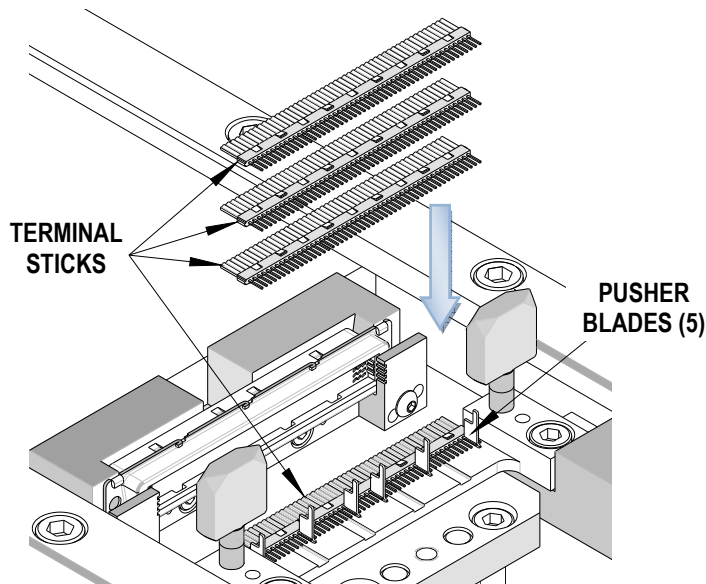

Figure 2-7
6. Repeat step 5 for the remaining LFH™ terminal sticks in the connector. The groove orientation on the terminal sticks must be the same for all the sticks; if it is not, the sticks will not stack properly. See Figure 2-7.
9. Remove the LFH™ terminal sticks and restack them, then close the cover. See Figure 2-7.